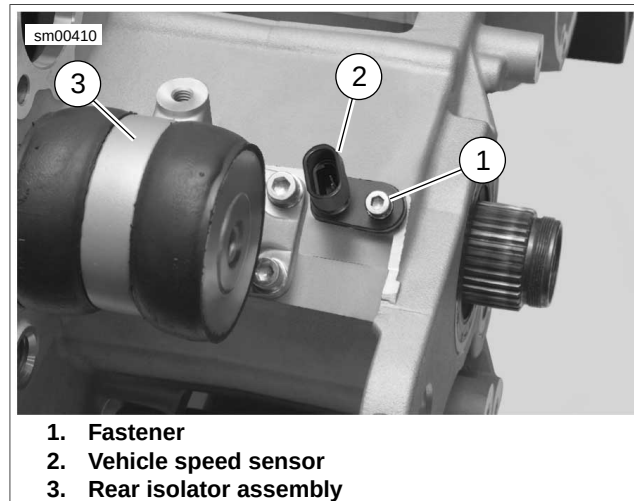

Figure 7-78. Speedometer Sensor
3. See Figure 7-78. Remove fastener (1) to detach vehicle speed sensor (2) from crankcase.
1. See Figure 7-78. Lubricate o-ring with engine oil and install fastener (1) to attach vehicle speed sensor (2) to crankcase and tighten to 90-110 **in-lbs** (10.0-12.4 Nm).